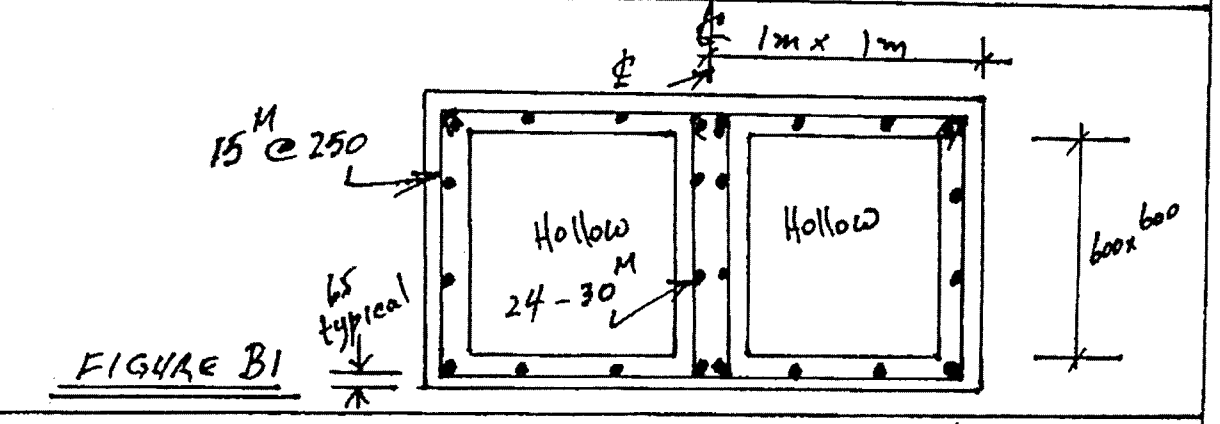

FIGURE B1
- B1. The reinforced concrete double hollow section shown in Figure B1 is reinforced with 24-30M longitudinal bars and 15M ties spaced at 250 mm. Calculate the moment of resistance and shear resistance of the cross-section.